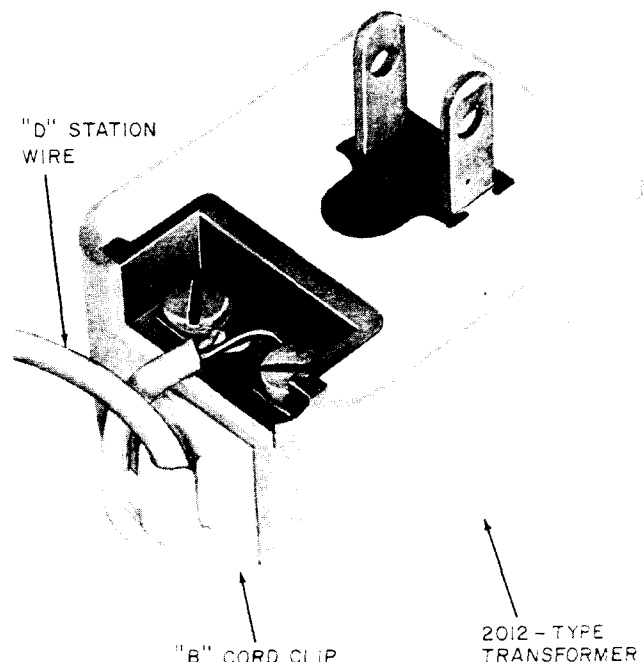

Fig. 3—Cord Clip Used to Secure Station Wire to Transformer
1.08 Remove protective paper from adhesive of B cord clip and stick clip to bottom of station transformers as shown in Fig. 3. Terminate D station wire on screw terminals of 2012-type transformer and hook station wire through B cord clip as shown in Fig. 3.